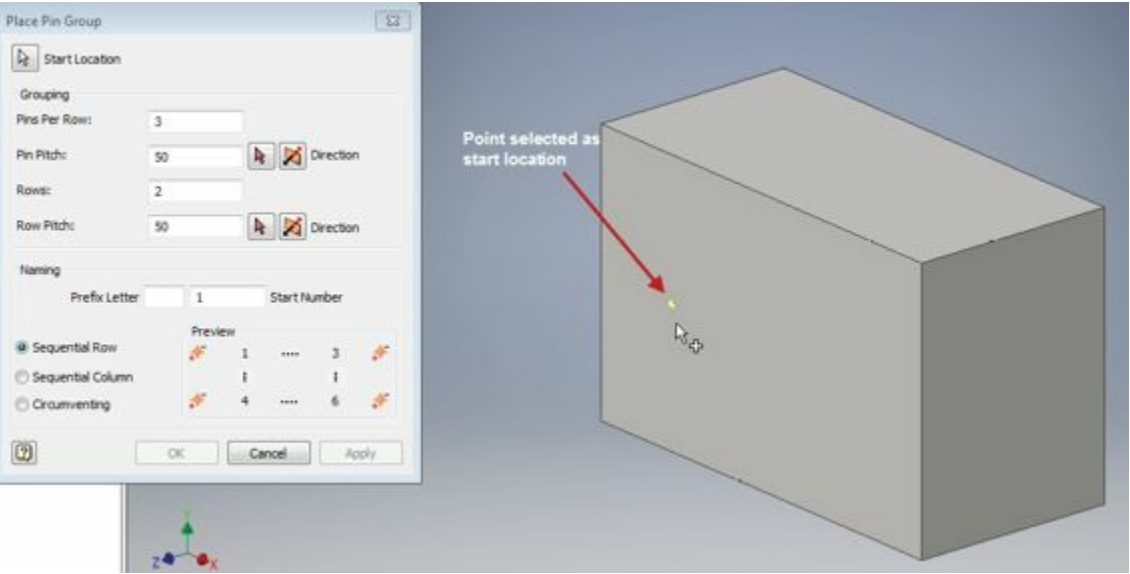

Figure-26. Specifying start location for pin group
- Click at the desired location on the model to create the pin group. Note that you need to have a reference point at the location where you want to place pin group. In Figure-26, we have already created a sketch point on the surface of model, which we are going to select.